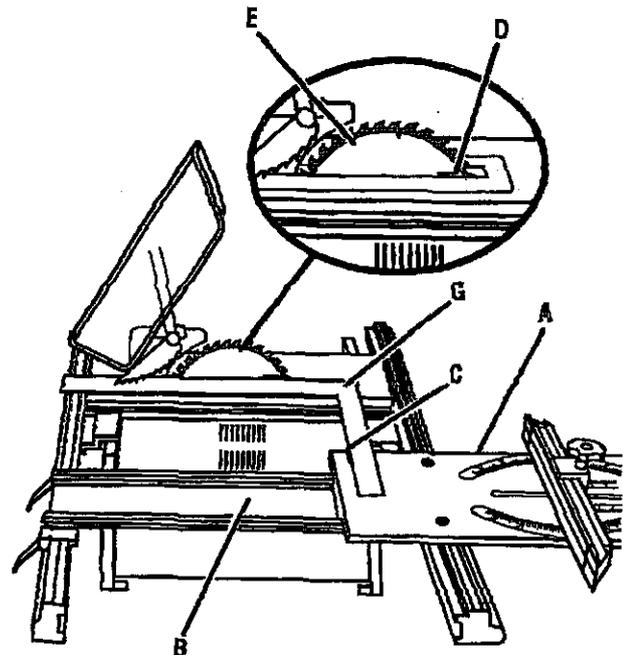

Fig. 30
See Figures 30 - 31.
- Slide miter table (A) to the front of miter base (B) as far as it will go. Place a reference mark (C) near the end of the miter table as shown in figure 30.